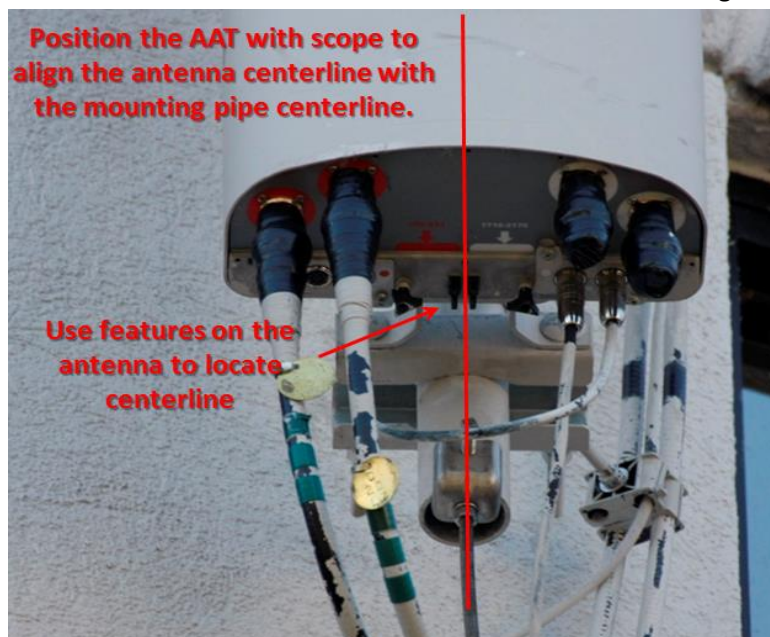

Figure 2-3
*** CAUTION: FOR DOUBLE PIPE MOUNTS, BE SURE TO ALIGN WITH CENTER OF THE PIPE THAT THE MOUNTING BRACKETS ARE ATTACHED TO. See Figures 2-3, 2-4 and 2-5.